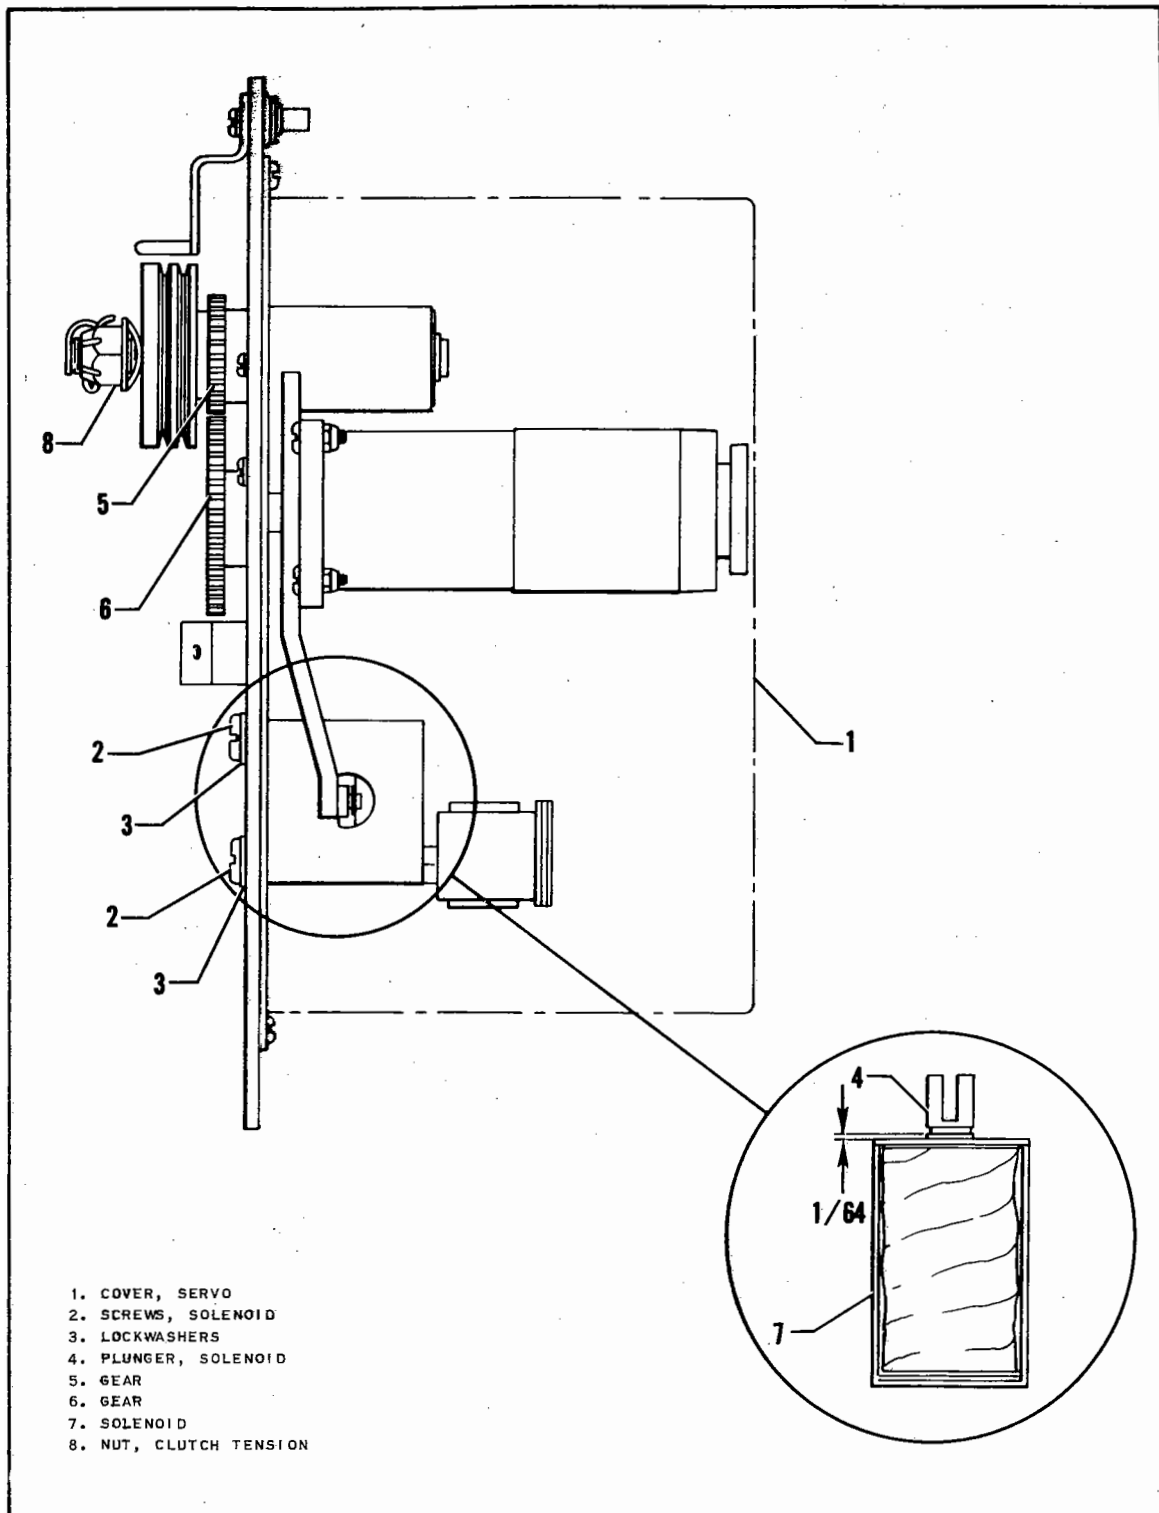

Figure 10-2. Clutch and Clutch Solenoid Coil Adjusting Details
- e. To adjust clutch, refer to Figure 10-2 and proceed as follows:
10-4. III SERIES TRIM SERVO ENGAGE SOLENOID ADJUSTMENT FOR 1D345 AND 1C463 SERVOS ONLY. (Refer to Figure 10-2.)